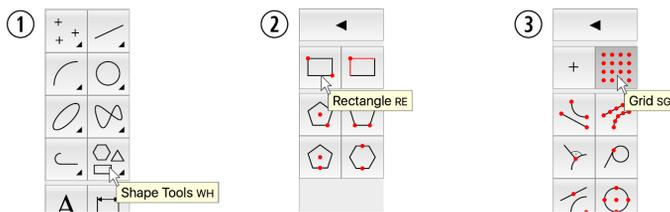

Figure 3-3: Choosing the CAD tools for drawing rectangles and activating the *Snap to grid* tool.
4. Move your mouse cursor to the shape button as shown in Figure 3-3 at the left (1). Click the left mouse button to show the shape tools (2).
5. Click the button with a rectangle on it as shown in Figure 3-3 (2). QCAD now knows that you intend to draw a rectangle and shows the CAD toolbar with the snap tools.
6. Click the button with a grid on it as shown in Figure 3-3 (3).